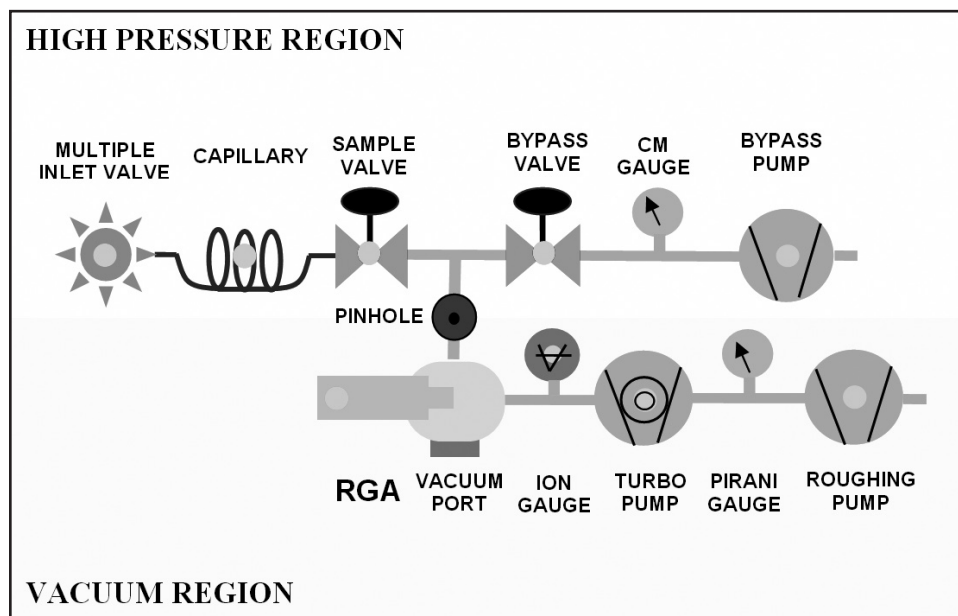

Figure 1-1. UGA Schematic
The UGA systems can be considered as two main subsystems: gas handling and the analyzer. The analyzer is the quadrupole mass spectrometer, which can only operate in high vacuum. The class of quadrupole mass spectrometer employed belongs to a class referred to as residual gas analyzers (RGA). These spectrometers specialize in large dynamic range measurements of light gases. The gas handling system consists of pumps and valves that deliver the sample gas to the analyzer. The UGA employs two separate diaphragm pumps (DP) for each stage. In this way, the high pressure sample line is completely separated from the analysis system. (see figure 1-1)